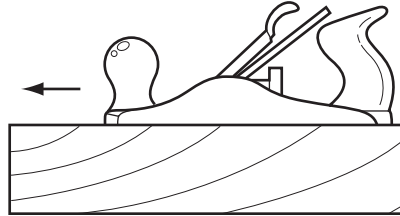

Fig. 1
- 1 (a) Name the type of plane shown in Fig. 1.
- (b) Give **two** reasons why the wood in Fig. 1 should **not** be planed in the direction shown.